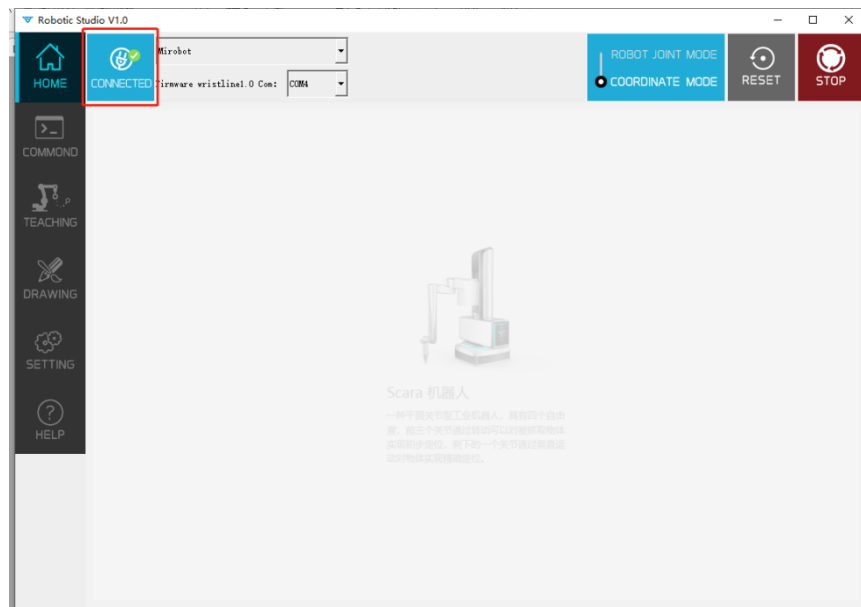

Figure 2.11 Successful connection between Mirobot Studio software and manipulator
(4) At this time, the upper left corner of the Mirobot Studio software displays the green connection success flag. At this time, you can start to use the Mirobot Studio software to control the manipulator. As shown in Figure 2.11.